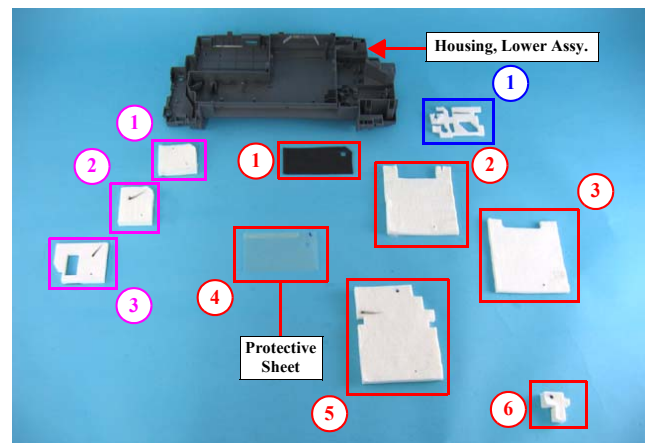
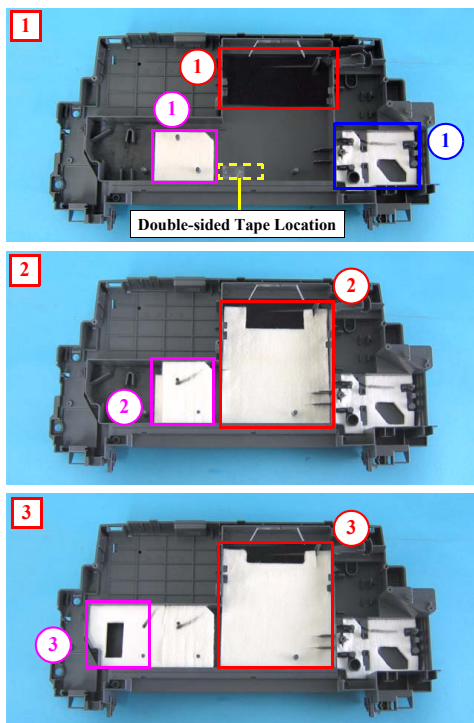
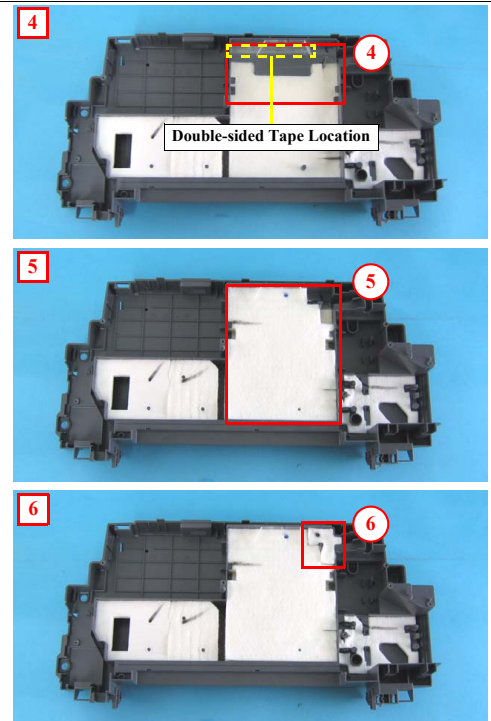

Figure 4-31. Removing Waste Ink Pad
Figure 4-32. Installing Waste Ink Pad (1)
Figure 4-33. Installing Waste Ink Pad (2)
Attach the Waste Ink Pads in the order shown in **Figure 4-31**, **Figure 4-32**, and **Figure 4-33**. Waste Ink Pads ② and the Protective Sheet should be secured with double-sided tape as shown in **Figure 4-32** and **Figure 4-33**.